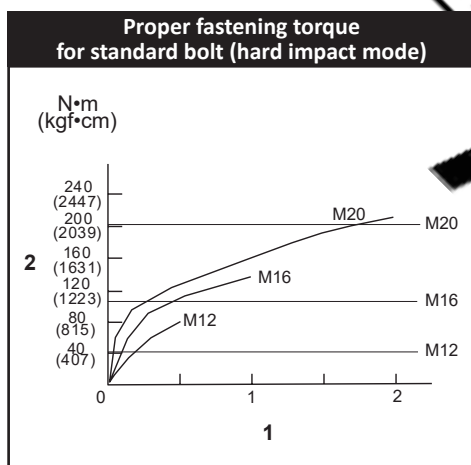

Fig. 10
- The proper fastening torque may differ depending upon the kind or size of the bolt, the material of the workpiece to be fastened, etc. The relation between fastening torque (2) and fastening time (1) (seconds) is shown in figures 10 and 11.